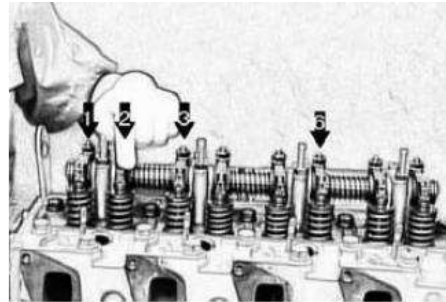

Fig 5-21 Valve Clearances Adjustment for Four-cylinder Engine
2.10 For four -cylinder engine, counted from front side of the engine' adjust no. 1' 2' 3, 6 four valves (see Fig 5-21).